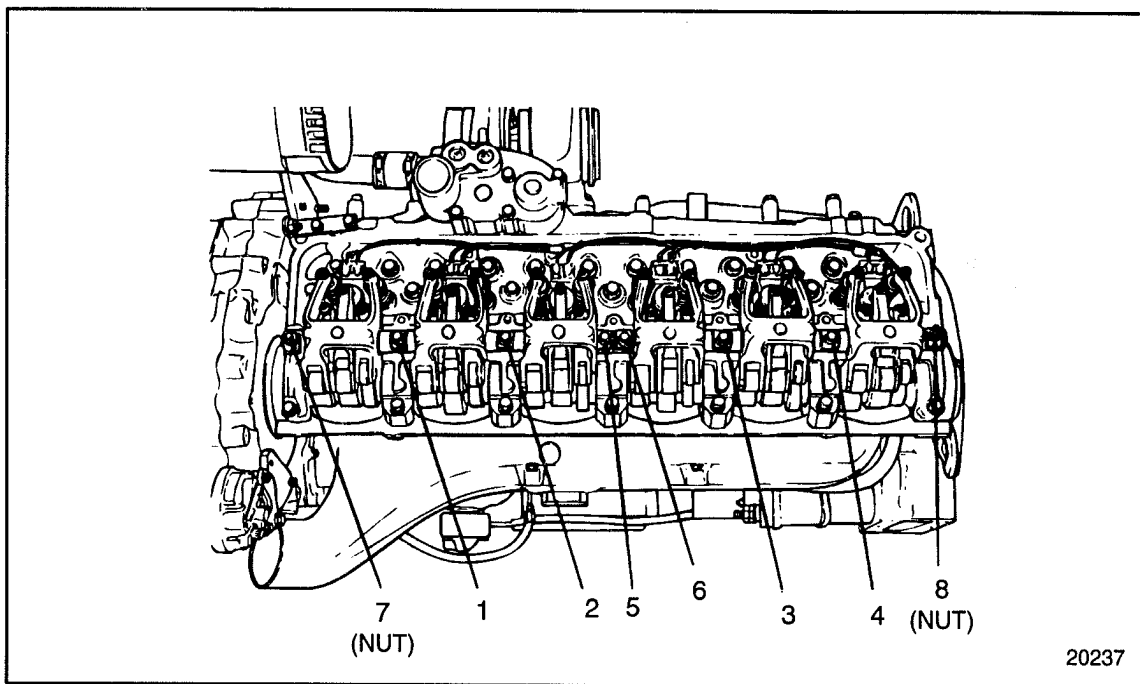

FIGURE 1-259 Rocker Arm Shaft Bolt and Nut Torque Sequence
- [n] When the proper readings of 0.025–0.114 mm (.001–.0045 in.) are obtained at all four (4) positions, hold the idler gear. Refer to step [i] as the first step and refer to step [j] as the final step, and tighten the top two adjustable idler gear flanged nuts to 57–67 N·m (42–49 lb·ft) torque.
- [v] Install the rocker arms and tighten the rocker arm shaft's thru-bolts and nuts to 101–116 N·m (75–86 lb·ft) using the sequence. See Figure 1-259.